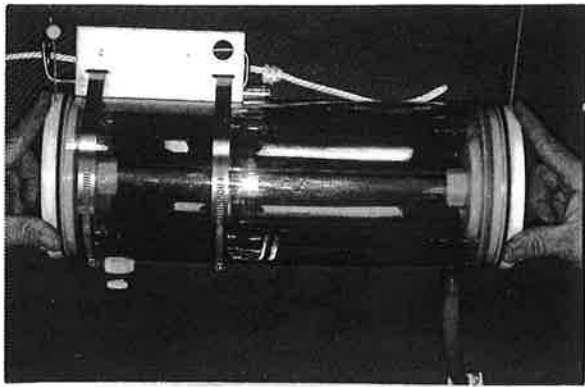

Figure 1.
2. Lay sampler on its side with the rope side of the cable clamp positioned downward. Turn the top and bottom seal lanyards so they align with hole in the release mechanism (figure 1)